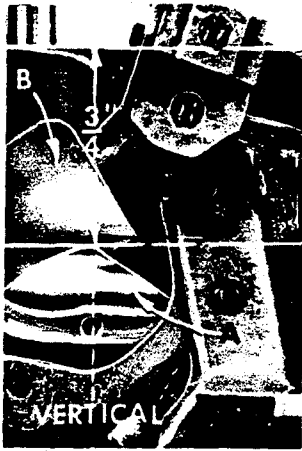
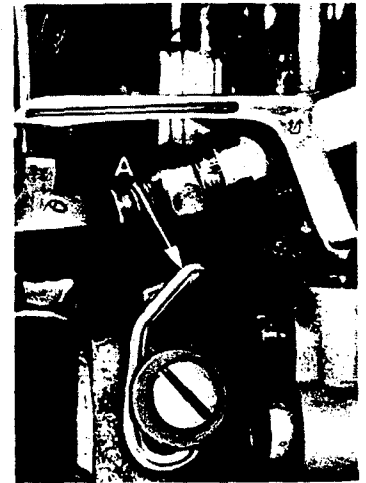

Fig. 18
Fig. 19
Set 401 looper thread take-up cam eyelet so rear eyelet hole is directly under looper thread cast-off corner of cam (A, Fig. 18) when cam is at its most rearward position. Front and rear eyelet holes to be set horizontally. Looper thread eyelet (A, Fig. 19) to be set vertically and approximately centered in its slot.
Pull several feet of thread through the looper to provide slack while checking the tension. Turn handwheel in operating direction until the needle is totally raised. Pulling the thread straight towards the operator, through the looper thread eyelet (A, Fig. 19), adjust tension with the knurled nut (H, Fig. 2) to approximately 2 ounces.
When the 401 looper thread cam is correctly positioned on the needle arm shaft, the cast-off corner (A, Fig. 18) will be 3/4 inch vertically below the top surface of the bed, when the needle arm is at its highest position (Fig. 18). This adjustment is made at the factory, but if checked and moved, it must be observed that the cam functions as a thrust collar for the needle arm shaft and correct thrust must be maintained. If this setting is correct, the casting-off may be timed. To change the time of casting-off, move the cast-off blade (B) up or down, rotating it about its holding screw. Set cast-off blade to cast-off looper thread when the needle point is between the bottom and top of the looper.
Observe the action of the looper thread take-up at the bottom of the needle stroke. The looper thread is lying across the cam lobes, slack from the previous casting-off. As the needle arm rises to the top, the looper thread will begin to tighten across the cam until cast-off will again occur and the looper thread will lie in the crotch of the cast-off blade (B, Fig. 18).